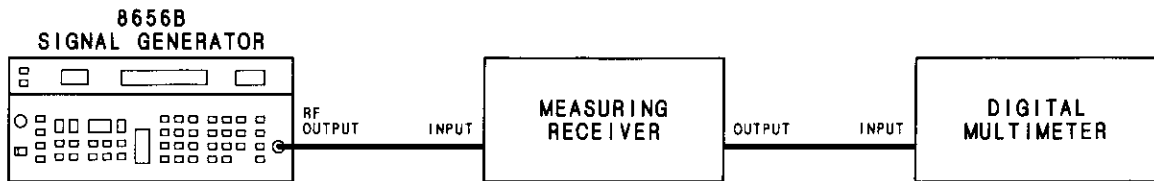

Figure 4-3. Residual AM Test Setup
8. Connect the RF OUTPUT of the Signal Generator to the input of the measuring receiver and the output of the measuring receiver to the input of the digital multimeter as shown in Figure 4-3.